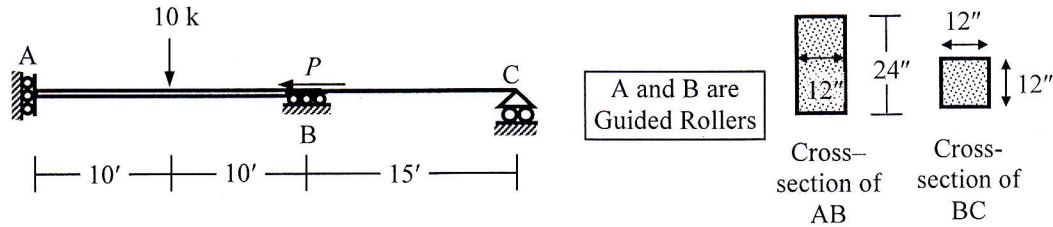

Fig. 6
6. Use Stiffness Method to calculate the unknown joint deflections and rotations of the beam ABC loaded as shown in Fig. 6, considering flexural deformations only if $P = 0$ [$E = 400 \times 10^3 \text{ k/ft}^2$].
7. Use Stiffness Method to calculate the unknown joint deflections and rotations of the beam ABC loaded as shown in Fig. 6, considering flexural deformations only with geometric nonlinearity, if $P = 200 \text{ k}$ [$E = 400 \times 10^3 \text{ k/ft}^2$].